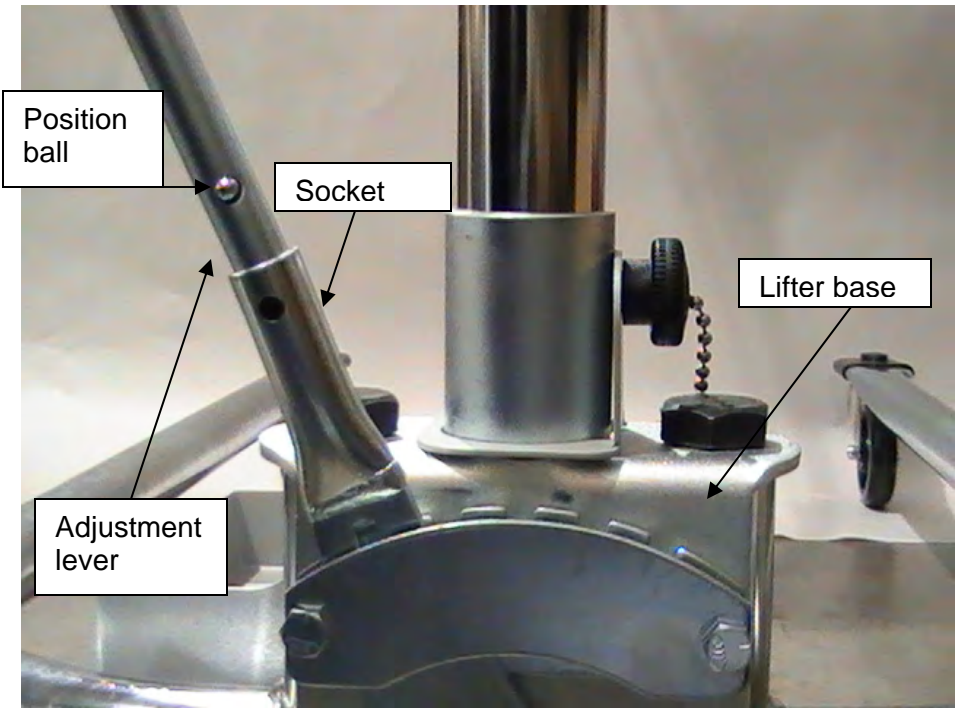

**Figure 3**
2. Place the stretcher holder onto the lifter base (see Figure 3).
3. Remove black plastic protective caps from lifter mast (see Figure 3).
5. The notch on the end of the lifter mast fits over the round tube at the bottom of the mast sleeve (see Figure 3).
6. Position and lock the lifter mast into the mast sleeve. When assembled correctly, the lifter mast will not be able to rotate (see Figure 3).
7. Check that the lifter mast is locked into position, and that the hole in the lifter mast is aligned with the threaded hole in the mast sleeve (see Figure 3).
8. Screw the knob into the threaded hole in the mast sleeve. Tighten to lock the lifter mast to the lifter base (see Figure 3).